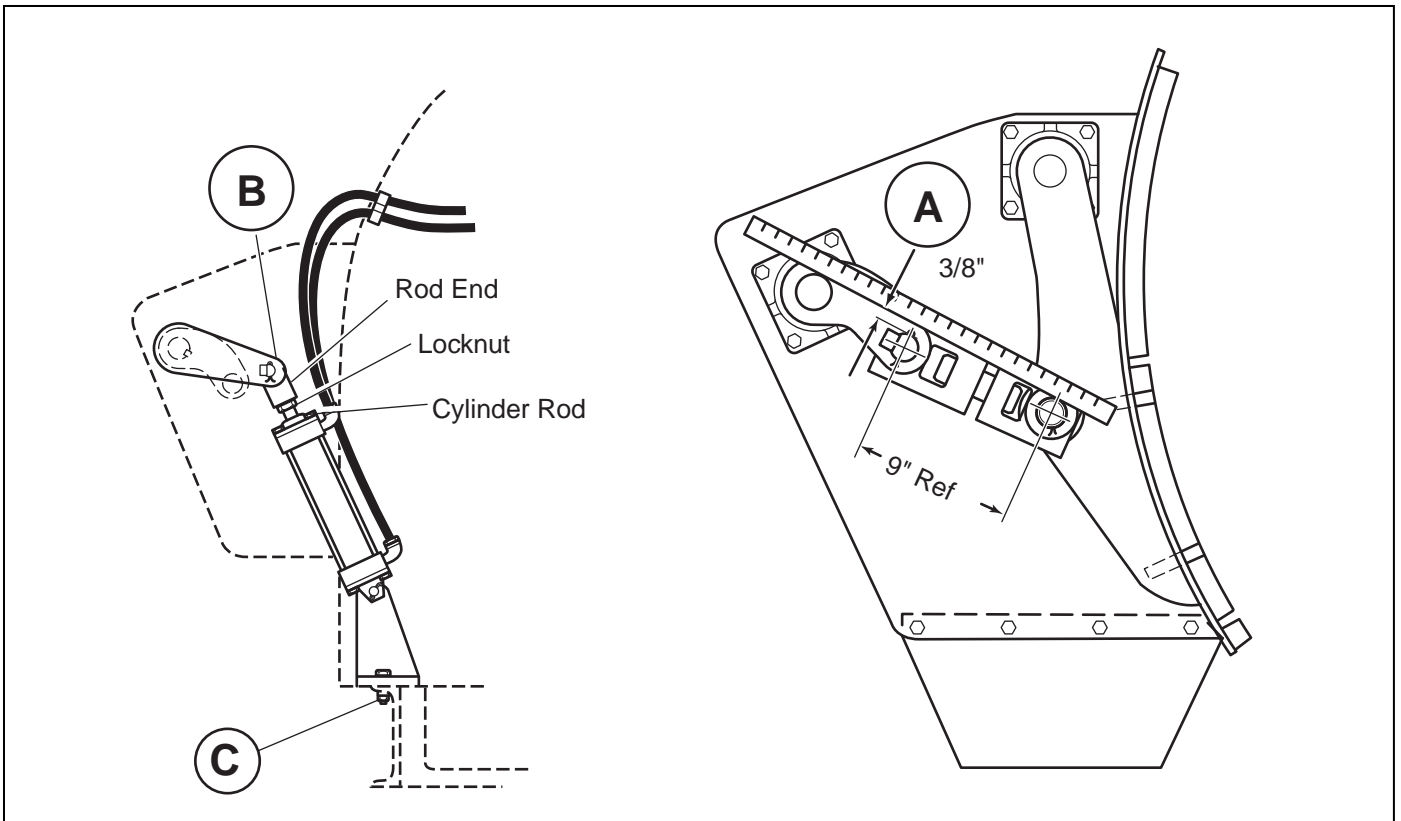

Figure 3.6 Adjusting Standard Gate
3. Place a straight edge across the top of the gate operating shaft and pin as shown. Dimension between straight edge and pin should be 3/8 inch as shown in Figure 3.6 at point A.
7. Remove cotter pin from pin as shown in Figure 3.6 at point B.
12. If 3/8 inch cannot be accomplished with above procedure, shim as shown in Figure 3.6 at point C as necessary.